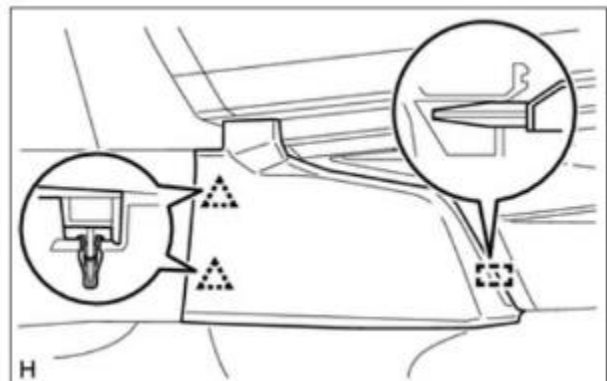

Figure 11
- (a) Detach the 2 clips and guide to remove the front No. 2 console box insert (Figure 11).